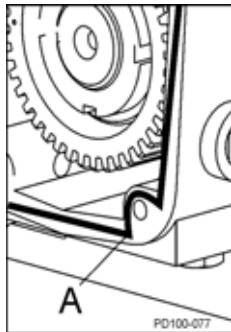

Figure 96 - Sealant Placement
3. Apply silicone sealant to the back of the gear case. (Gore-Tex® sealing tape can be used on silicone-free models.) Place tape on the inside of the screw holes. (Figure 96, item A).